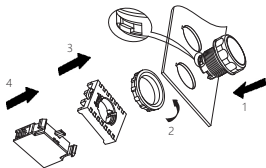
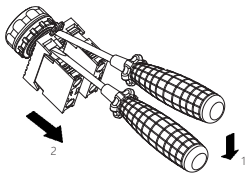

Figure 2 Assembly process
Figure 4 Dismantle the contact assembly and operation head
3) See Figure 2 - Figure 4 for assembly and disassembly drawings.